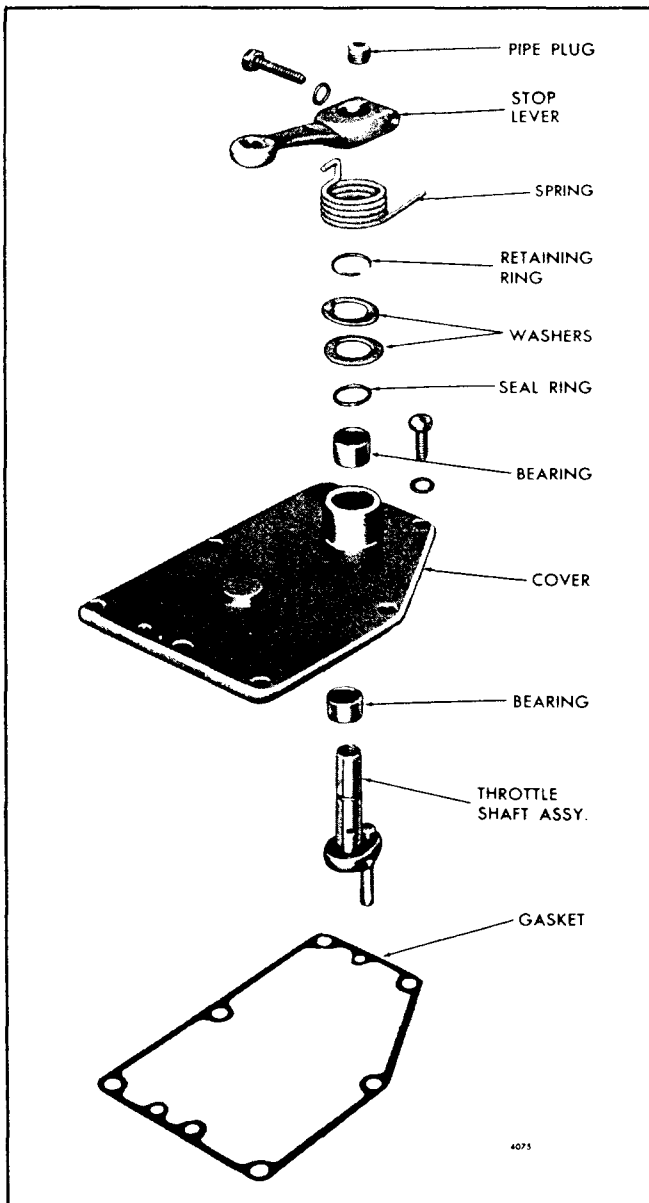

Fig. 4 - Governor Cover Details and Relative Location of Parts
2. Remove the retaining ring and the two seal retaining washers. Withdraw the throttle shaft from the cover (Fig. 4).